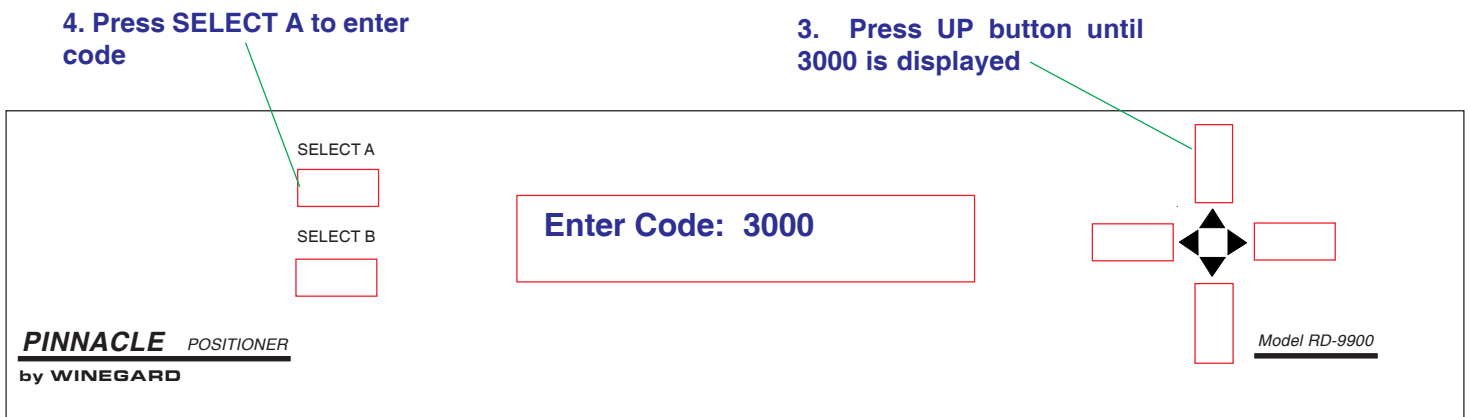

Figure 10
5. Press **[UP]** arrow button until 3000 is displayed. See Figure 10.
6. Press **[SELECT A]** to enter code. See Figure 10.